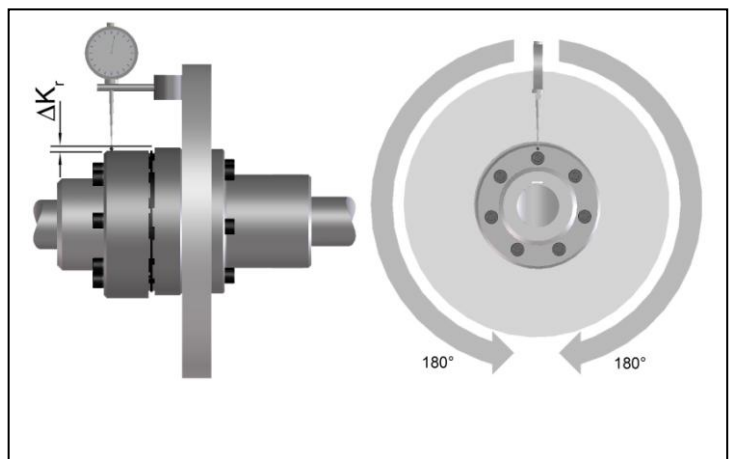

Fig. 7
- Measure a complete rotation (360°). Determine in this case the greatest deviation  $\Delta K_{r1}$  as well as the smallest deviation  $\Delta K_{r2}$  (Figure 7).